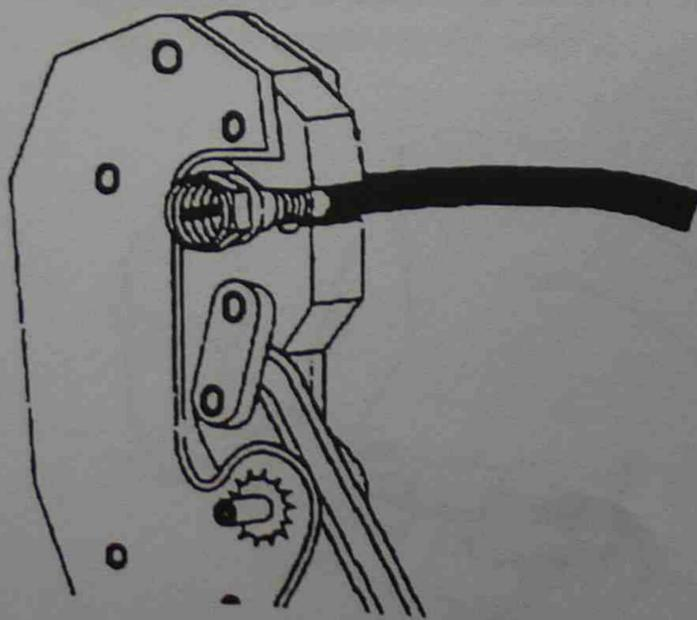

Figure 89 Crimping the connector
6. Using the proper crimp port on the crimping tool, crimp the body of the connector as shown in Figure 89.